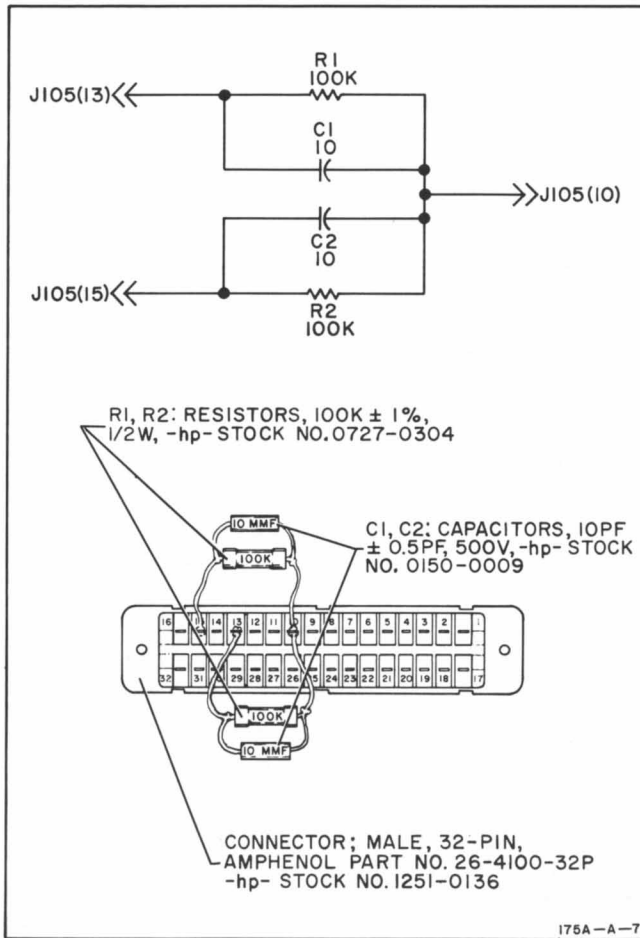

Figure 5-1. Test Plug
5-28. In table 5-1, items 3 through 13 are the test instruments recommended to make the adjustments outlined in this section. Equipment with equivalent characteristics may be substituted. The special horizontal Test Plug shown in figure 5-1 is required to test the main vertical amplifier scanner outputs.